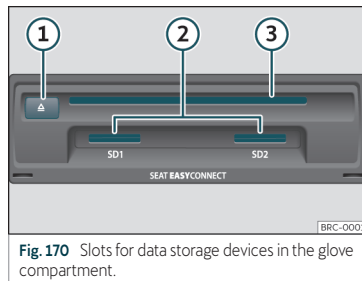

Fig. 170 Slots for data storage devices in the glove compartment.
>>> **Fig. 170** ③ to the point where it is drawn in automatically.
» **Fig. 170** ②, until properly inserted.